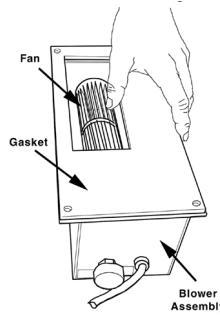
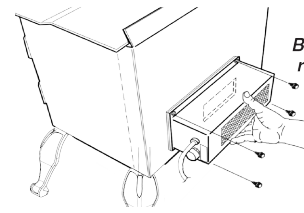

Fig. 4 - Optional Blower Assembly
Fig. 5 - Mount Blower Assembly to rear Heat Deflector
1. Attach blower assembly (fig.4) to back of rear deflector. (fig.5)